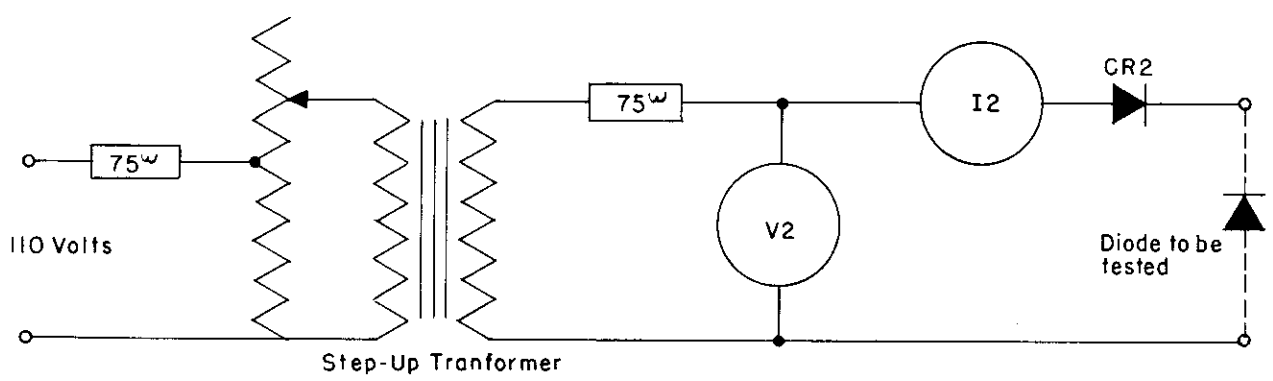

Fig. 5 - Reverse Leakage Test
The following test equipment is recommended in the testing of diodes. The meters should be of 2% accuracy. Each piece of equipment is identified by a reference designation number that is used to identify the equipment in the test circuits, Figs. 5 and 6.
1. Connect the diode to be tested in a circuit as shown in Fig. 5.